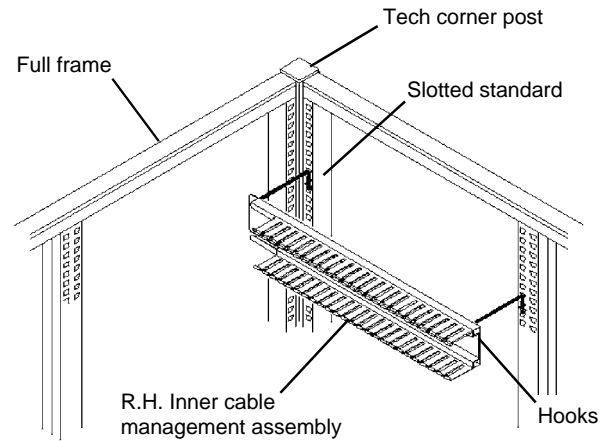

Figure 1
1. Install the Right Hand **Inner Cable Management Assembly** in the desired location on the inside of the Tech Corner by inserting the hooks on each end of the assembly into the slotted standards. **DO NOT** put the covers on at this time. See **Figure 1**.